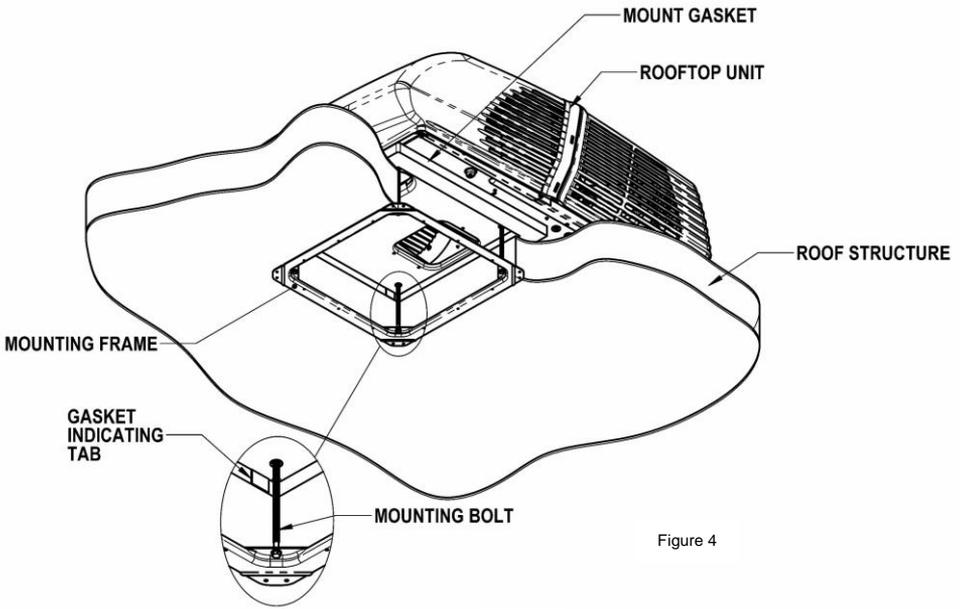

Figure 4
A mounting frame is supplied with the ceiling assembly. Follow the steps below to secure the air conditioner to the roof. Refer to Figure 4.
- c. Proper tension has been achieved for each bolt when any portion of each gasket indicating tab has been pulled down even with the roof (See Figure 4). The upper unit has now been properly installed with optimum gasket compression.